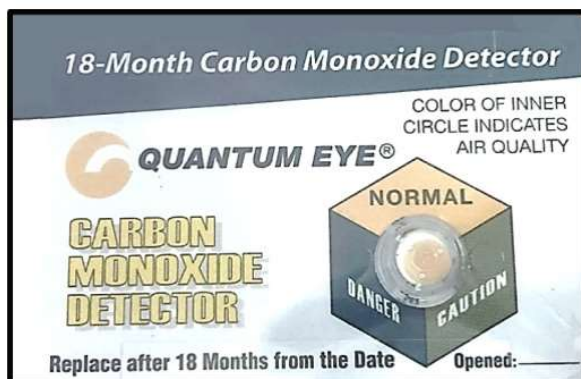

Fig. 1: Example of a suitable Passive Chemical CO Detector
- 1) If the CO detector (001) is installed, check the validity of this detector and if it is expired, replace it. If is not expired, continue to step 7.
- 3) Unpack the CO detector (001, Fig. 1).